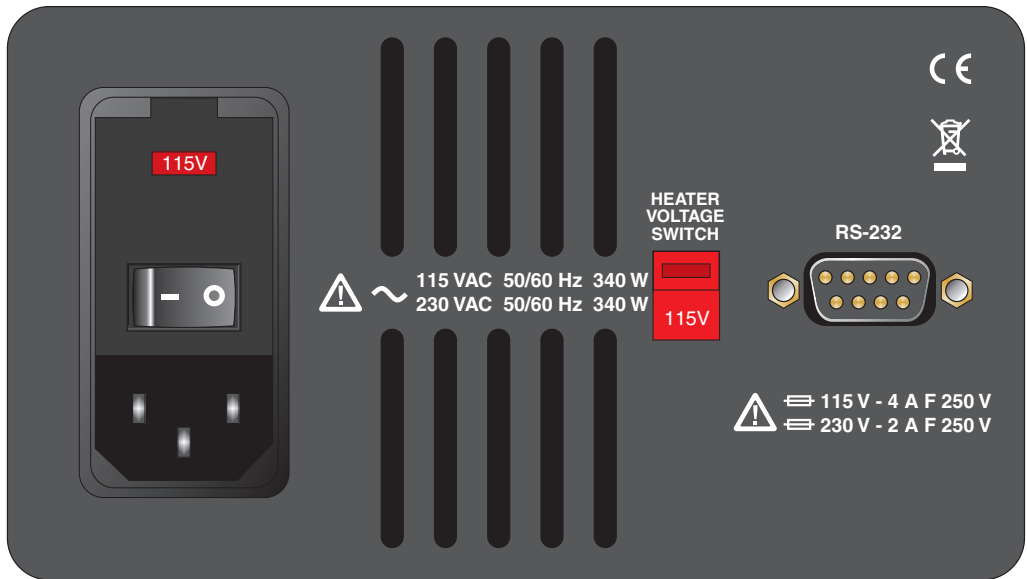

Figure 2 Back Panel
The back panel (Figure 2) consists of the power cord inlet, power switch, heater voltage switch, serial port, and fan.
5. Using the same straight slot screwdriver, move the heater switch to display “230V”. See the back panel drawing in Figure 2 on page 11.